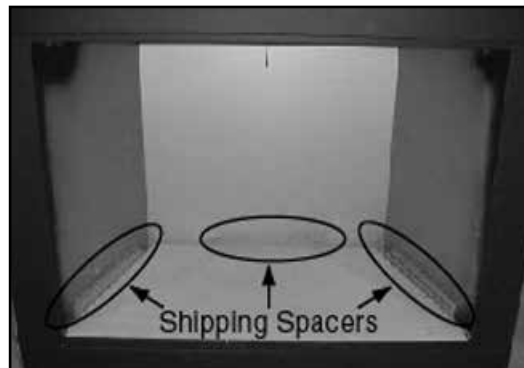
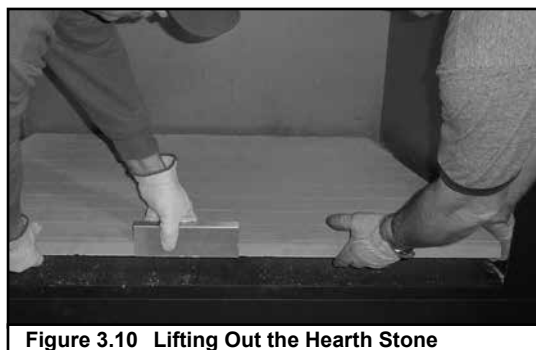

Figure 3.9 Shipping Spacers
Figure 3.10 Lifting Out the Hearth Stone
- Remove hearth stone by removing three corrugated shipping spacers (Figure 3.9). Lift hearth stone out of fireplace. See Figure 3.10.